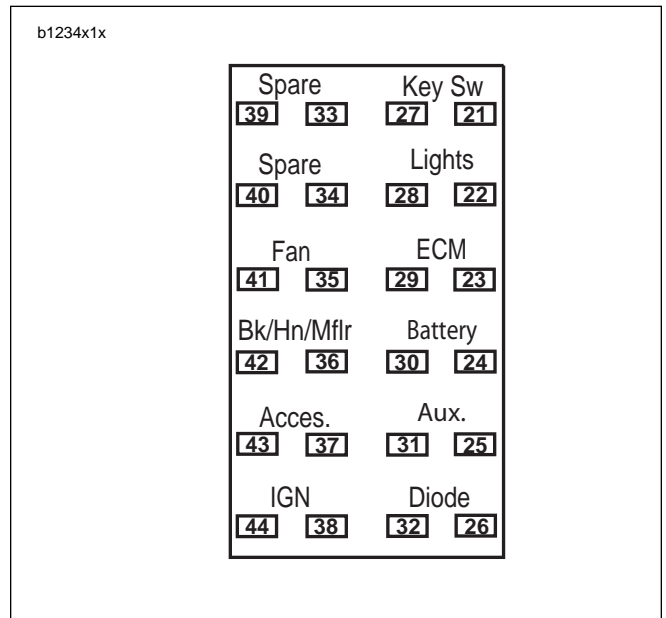

Figure 7-18. Fuse Block
1. See Figure 7-18. Locate diode within fuse block.